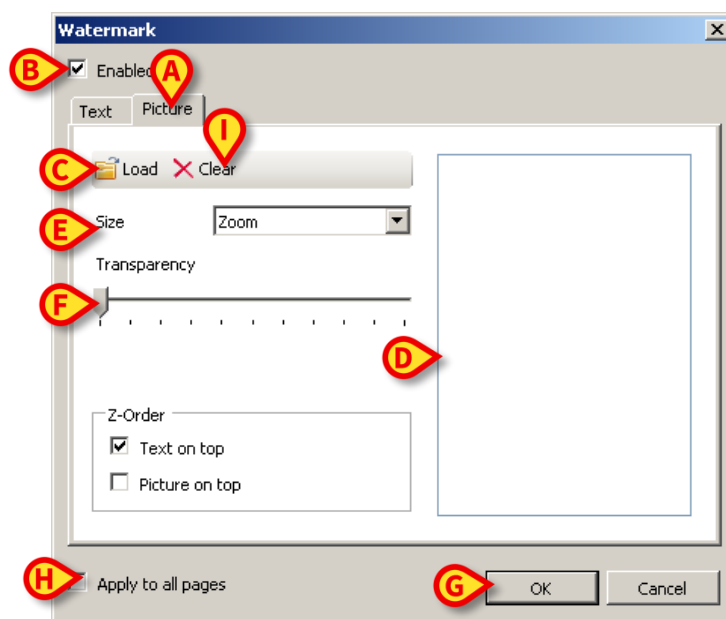

Fig 31
- Click the “**Picture**” tab indicated in Fig 31 A.
The following window is displayed (Fig 31).
- Ensure that the “**Enabled**” checkbox is checked (Fig 31 B). If not, the contents cannot be edited.
- Click the “**Load**” button indicated in Fig 31 C.
The image is displayed in the area indicated in Fig 31 D.
- Use the “**Size**” drop-down menu to set the size of the image (Fig 31 **E**).
- Use the “**Transparency**” cursor to set the transparency level of the watermark image (Fig 31 **F** - maximum transparency when the cursor is on the left).
- Click the **Ok** button (Fig 31 **G**).
If the “**Apply to all pages**” checkbox is selected (Fig 31 **H**) the watermark is applied to each page in the document, otherwise it is applied only to the current page.
- Click the “**Clear**” button indicated in Fig 31 **I**.